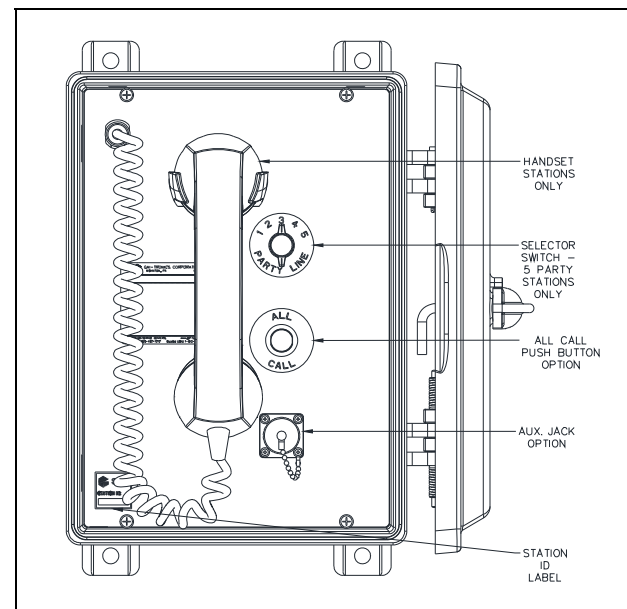
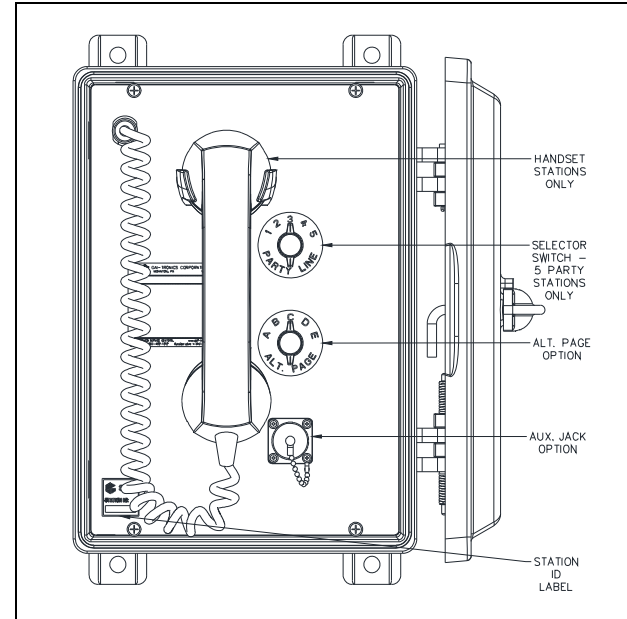

Figure 11. All-Call Button Option
Figure 12. Alternate-Page Switch Option
Use the ALL-CALL button to page an alternate destination that is programmed for the station (see Figure 11). The All-Call option must be software configured for the SP2 station. To initiate a page using the ALL-CALL feature:
Use the ALT-PAGE selector switch to page one of five alternate destinations programmed for the station (see Figure 12). Alternate page destinations must be software configured for SP2 stations. To initiate a page using the ALT-PAGE selector switch:
1. Attach the headset assembly to the auxiliary jack on the station (see Figure 11 or Figure 12).